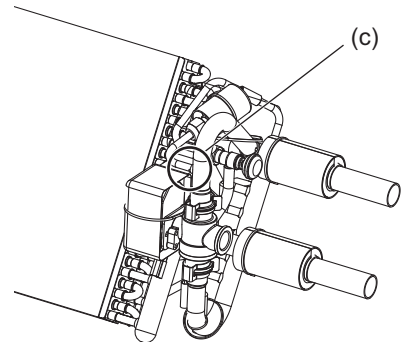

Fig.22
- (1) Debraze the brazed portion of the pressure sensors in the (Fig.22, 23) and then replace the pressure sensors with service parts. ((c) and (d) in the figures)